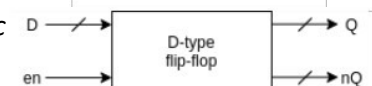

Figure 2: D-type flip-flop block diagram
1. Implement a D-type flip-flop in a new VHDL file, *d_flip_flop.vhd*, following the port configuration in figure 2 and the characteristics in table 2